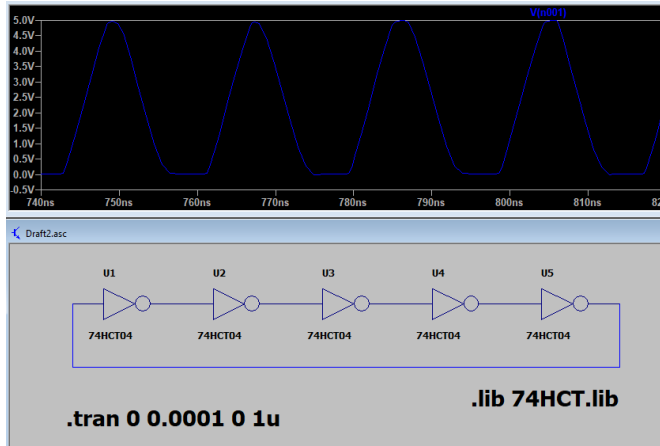

Fig. 1 Simulation waveform of a ring oscillator using 5 inverters (74HCT04)
50% of input and output will be at +2.5v and -2.5v, referring to Fig. 1, the distance is about 8ns which is our delay.
The period of the signal is about 18ns as shown in Fig. 1
1) From Fig. 1, we can see that the total time period of the square wave created by the LM555 IC is about 0.7ms. Therefore, the frequency ($f = 1/T$) is 1428.57Hz.